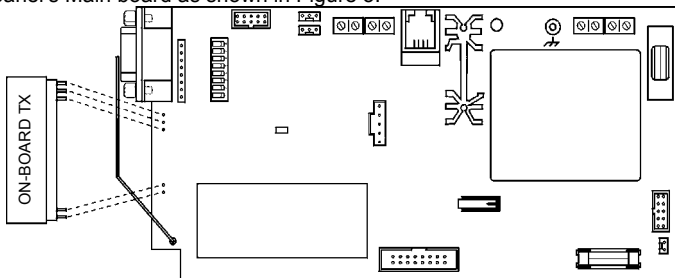

Figure 3: Plugging in the On-Board Transmitter
- To support the OS826, the ProGuard800's Main board must have the on-board transmitter installed. Plug the on-board transmitter into the control panel's Main board as shown in Figure 3.